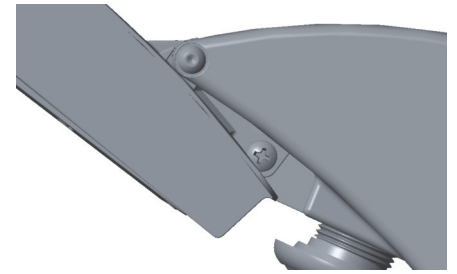

Fig. 3
3. Tilt the head to the desired angle (15°, 30°, or 45°). The holes in the two center brackets should align based on which angle is trying to be achieved. Lock the head in place using the included Philips head screw (**Figure 3**). It is recommended to use a long Philips screw driver (at least 8" from the base) and enter from the side of the fixture when securing the screw.